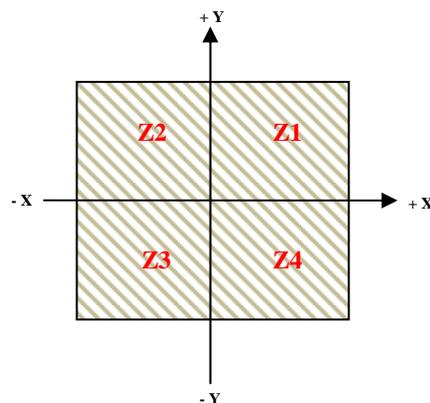

Fig. 2 Operational quadrants of analog multiplier
Analog multipliers are classified according to the number of quadrants in which they can operate. The quadrants are the four quadrants of the Cartesian coordinate system as you can see in Fig. 2 [2].
1. One-quadrant multipliers - all input signals and output signal have the same polarity (Z1 in Fig. 2).
2. Two-quadrant multipliers - one of input signals must be one-polarity and the other can be of both polarities. Output signal can be either positive or negative (Z1 and Z2 in Fig. 2).
3. Four-quadrant multipliers - allow operation with all input and output signal polarities (all Zx in Fig. 2).